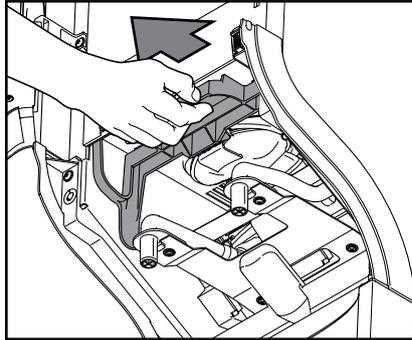

Fig. 27
- c. Pull the release bar to release the complete mixing console (fig. 27).